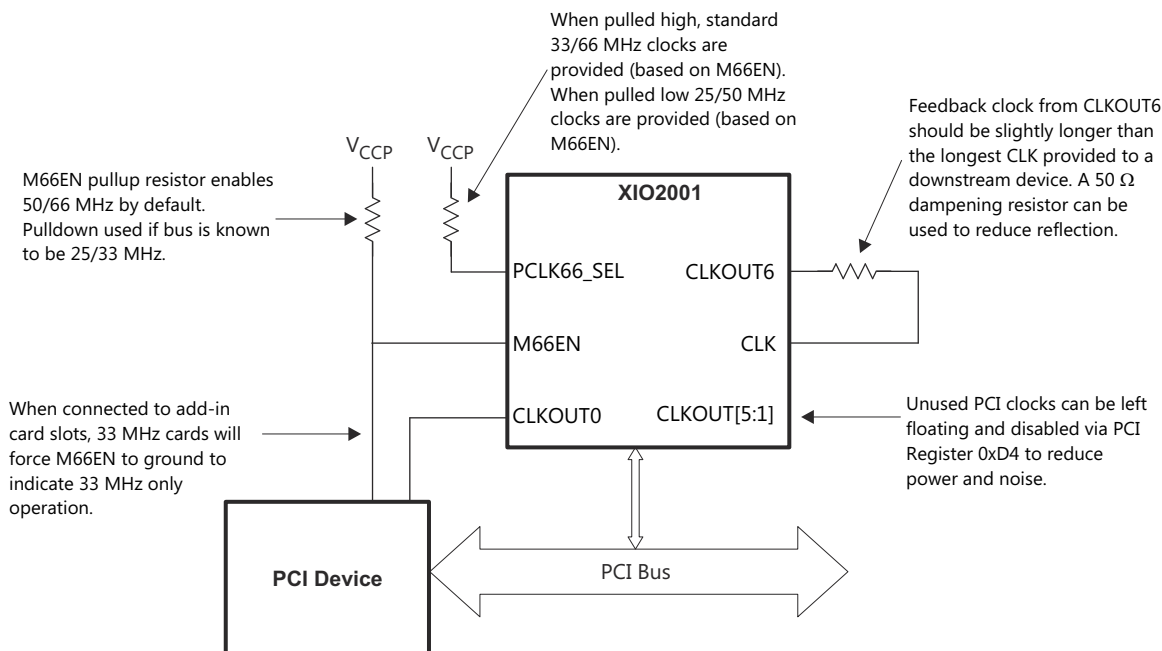

Figure 9-2. External PCI Bus Clock Configuration
- An external clock feedback feature is provided to de-skew PCI bus clocks. Connecting the CLKOUT[6] terminal to the CLK terminal is required if any of the other six CLKOUT[5:0] terminals are used to clock PCI bus devices. The CLKOUT signals should be slightly longer than the longest synchronous PCI bus signal trace. Figure 9-2 illustrates the external PCI bus clock feedback feature. The use of series resistors on the seven PCI bus clocks should be considered to reduce circuit board EMI.